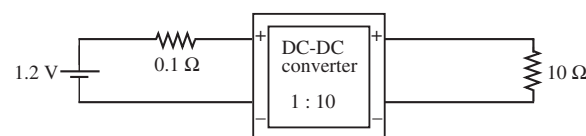

Figure P12.35
**12.35** A DC-to-DC converter can also be thought of, and analyzed as, a DC transformer! Figure P12.35 shows a particular DC-to-DC converter configuration that converts the 1.2 V of a Ni-Cd battery cell to a desired 12 V DC supply. Using the usual transformer “reflecting theorems” (see Chapter 7), determine the power supplied by the 1.2 V source, and to the  $10 \Omega$  load.